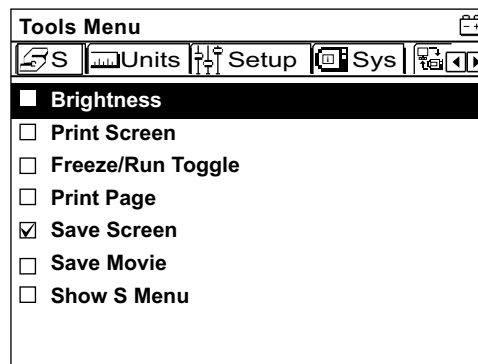

Figure 5-19 Sample Tools menu
2. Select a function from the list (Figure 5-19).